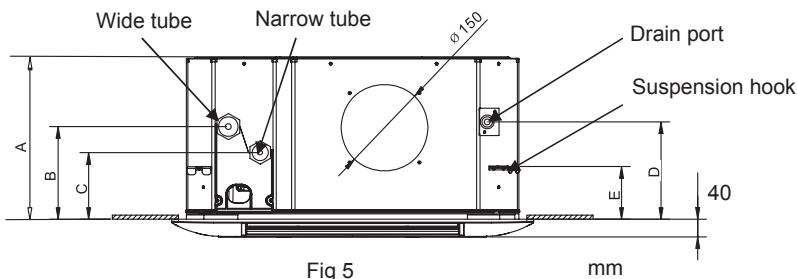
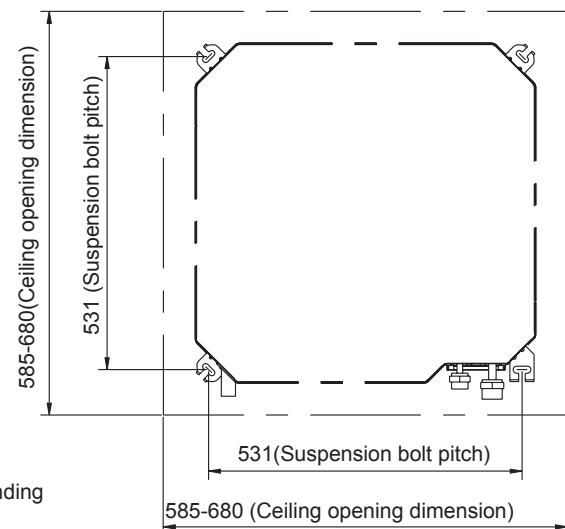

Fig 5
Fig 4 Unit:mm
- Use installation template (supplied with the panel) when deciding the suspension bolt position (Fig 4). Fig 5 and table 1 show the dimensions relationship.